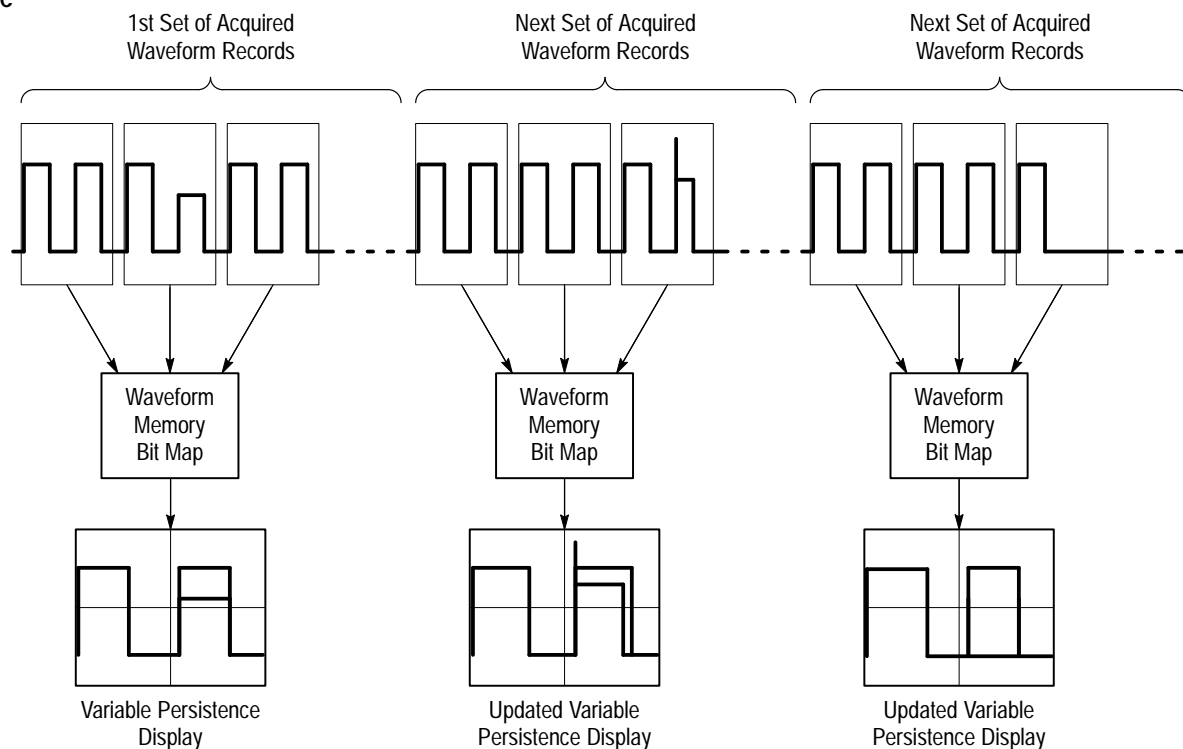

Figure 3–26: Normal DSO Acquisition and Display Mode Versus InstaVu Mode
Figure 3–26 illustrates how InstaVu acquisition mode differs from the normal acquisition mode used by digital storage oscilloscopes. Note that normal mode follows a “capture waveform–digitize waveform–update waveform memory–display waveform” cycle. Normal mode misses short term deviations occurring during the long dead times. Typical waveform capture rates are 50 waveforms per second.
1. Press the front-panel button **InstaVu**. (See Figure 3–27.)
2. Press **DISPLAY → Mode** (main). Push **Mode** again to toggle to InstaVu mode. (See Figure 3–27.)